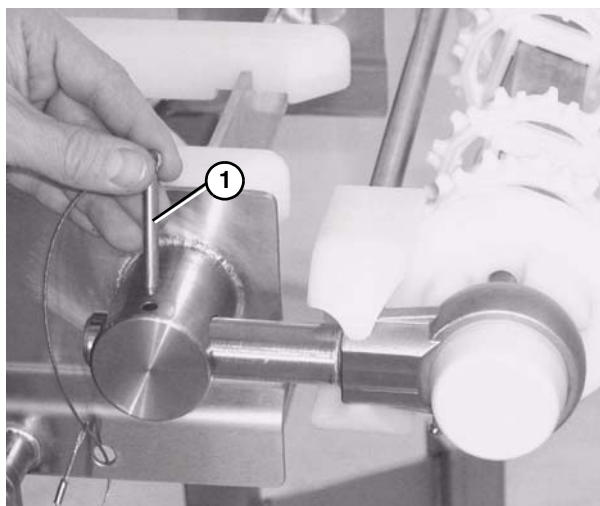

Figure 13
3. Insert the pull pins (**Figure 13, item 1**).